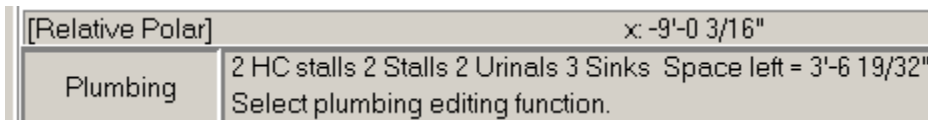

Figure 5-13: The current fixture count.
- Use the **+** and **-** options to add and delete fixtures from the list of fixtures to be drawn. For instance, click on the **+ HC Stl** option to add a handicap toilet stall to the list. The current list of fixtures is shown at the bottom of the screen, as in Figure 5-13. Notice that you are also given the “*Space left*” so you can see how the addition and subtraction of fixtures will fit within the two points selected in steps 1 and 2.